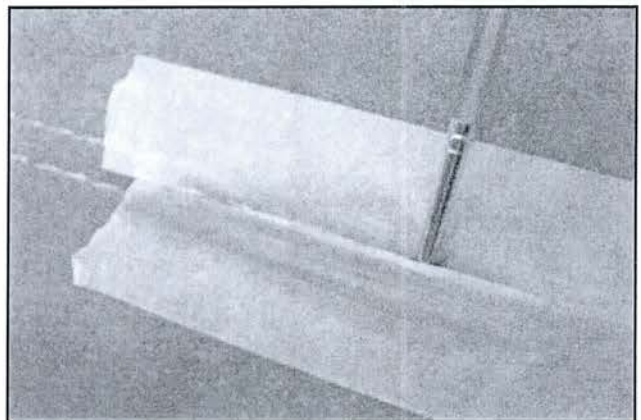

Figure 4
5. Use a small paint brush to carefully apply the adhesive under the edges of the alcantara (refer to Figure 4).